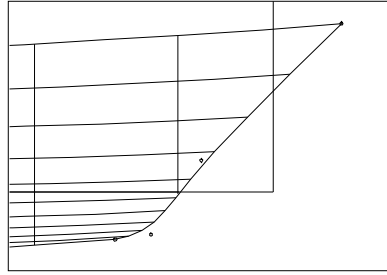

Fig. 4
**2** **Drag 'P11'** about 1.2 ft forward and .4 ft down **to X = -1.2, Z = 3.2** — use the Grid and the dynamic coordinate display on the status line for reference. Notice that the coordinates snap by 0.1 increments. If you miss your mark, you can drag the point again, until the location looks right or until you get the coordinates you want. Or you can use the Property Manager and type coordinates into the dialog box (Fig. 4).